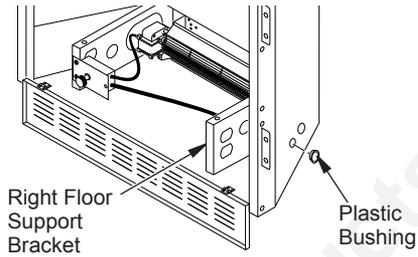

Figure 21 - Installing Plastic Bushing for Power Cord (Right Side Exit Shown)
- a. If your firebox is installed as a free-standing unit with an accessory mantel, determine whether the power cord will exit the left side or the right side of the firebox. Install one plastic bushing provided into the 1 1/2" hole in the floor support on the exit side. Install the second bushing provided into the 1 1/2" hole in the outer casing through which the power cord will exit (see Figures 21 and 22). Route power cord through plastic bushings and plug the power cord into a properly grounded three-prong wall receptacle near the firebox.